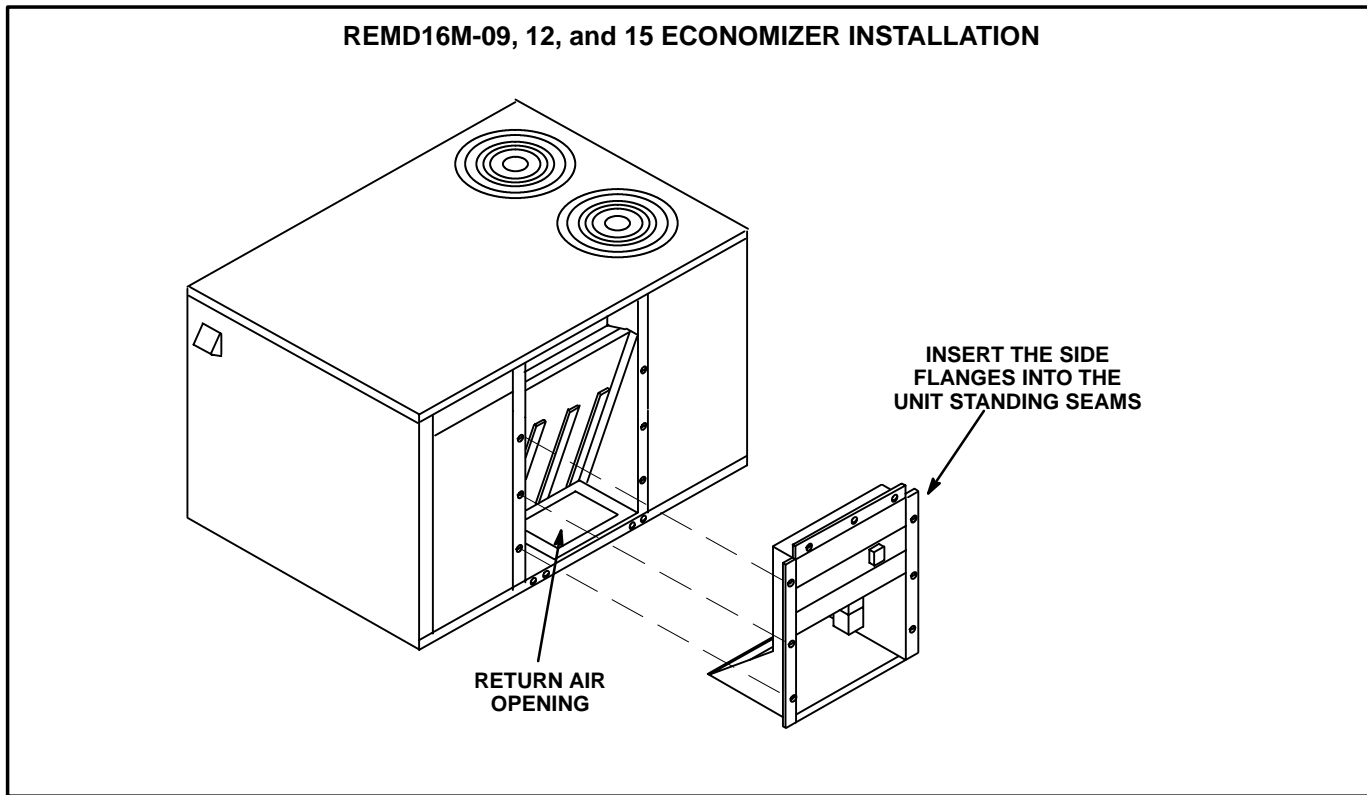

FIGURE 2
- 9- Route wiring to the right side of the economizer and slide into the unit. Position the mixed air sensor and control board in the filter section routing wiring along right side of the horizontal return air section. Insert economizer side flanges into the unit standing seams. See figure 2.